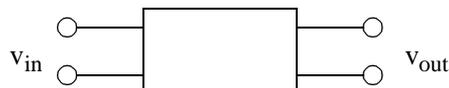

Figure 24.1 Two-port circuit
The transfer function (ratio of output voltage to input voltage) for a two-port circuit is expressed in SIMULINK as a function of s , not as a function of ω or f . But by using Eq. (3), you can convert from an equation involving s to one simply involving angular frequency. For example, suppose that the transfer function for some circuit (Figure 24.1) is expressed in SIMULINK as: